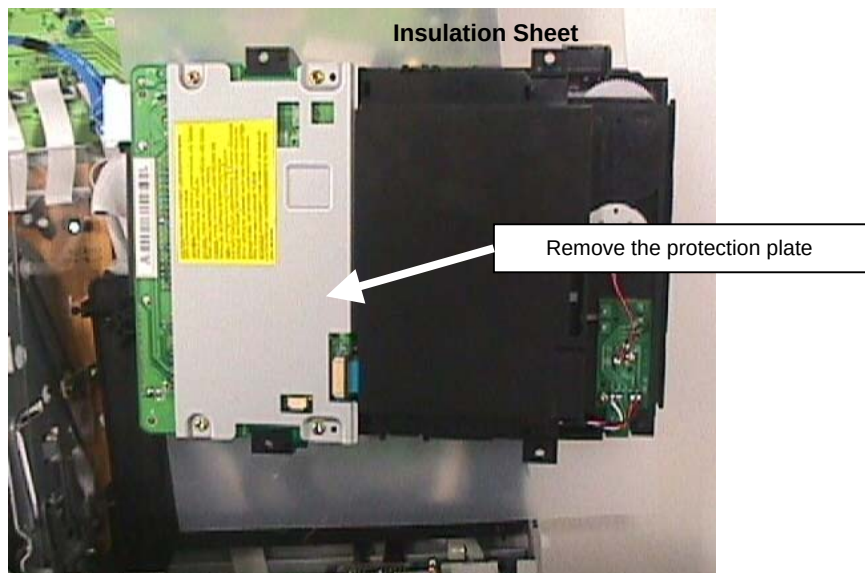

Figure 5 - Basic Engine Service Position
- 2) Flip the Basic Engine over to remove 4 screws from the PCB protection plate. Service Position of the Basic Engine as shown in Figure 5.